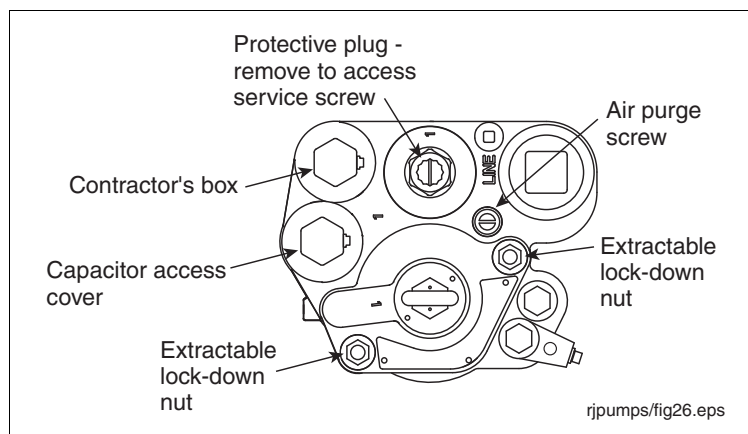

Figure 29. Extractable Lock-Down Nuts
2. Remove the two extractable lock-down nuts (see Figure 29). The springs on the lock-down studs between the extractable's flange and the manifold will push it up, breaking the seals.
26. Turn the air purge screw 2 - 3 turns counterclockwise (see Figure 29).